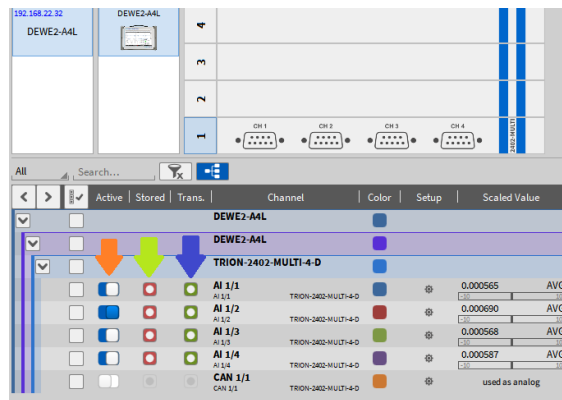

Figure 12-22: Slave unit channels visible in the Master units' Channel List
- Data Channels of a Slave unit can be configured via the Master unit. After claiming the Slave unit by the Master unit, the channels of the Slave unit will be visible and accessible in the Channel List of the Master unit. The example in Figure 12-22 shows a DEWE2-A4L-Slave unit (equipped with one TRION-2402-MULTI-4-D) connected to a Laptop-Master unit without TRION™ hardware connected. When settings of a Slave unit channel are edited via the Channel List of the Master unit, the changes will be transferred to the Slave unit.
- The blue slider marked with an orange arrow in Figure 12-22 will activate or deactivate the data acquisition from the channel
- The red button marked with a green arrow in Figure 12-22 will enable the storing of the data
- The green button marked with a blue arrow in Figure 12-22 will enable the data transfer from the Slave unit to the Master unit.